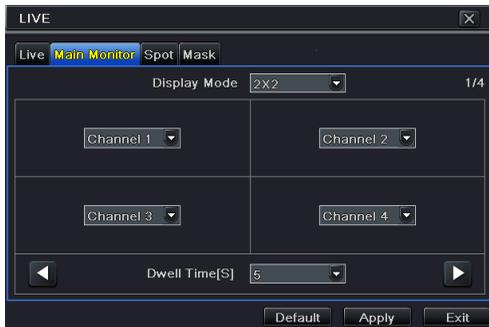

Fig 4-8 Live Configuration-Main Monitor
Step 1: Enter into Menu→Setup→Live →Main Monitor interface. Refer to Fig 4-8: